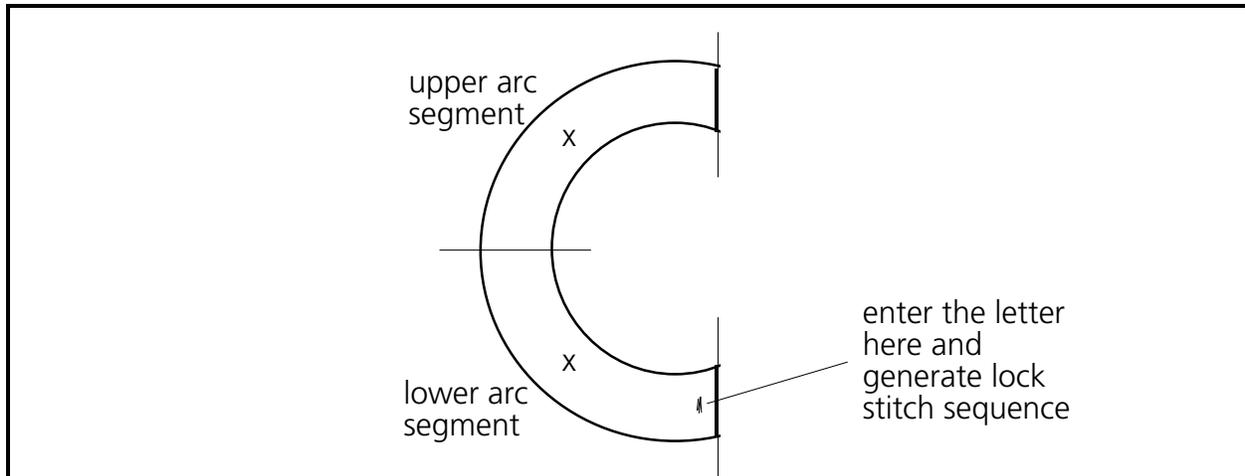

Figure 6-41
The curvature of the letter **c** is more than 180 degrees, therefore break the digitizing into 2 separate arcs. Notice that the letter is not exactly circular, but is slightly oval (see Figure 6-41).
Divide the **c** into two sections. Refer to Figure 6-41 and make the indications like the illustration.
1. Ensure the lock stitches were generated at the end of the letter **I**; then perform the needle up, Mk1, normal stitch, Mk1 sequence to move to the bottom right area of the letter **c** (see Figure 6-41).